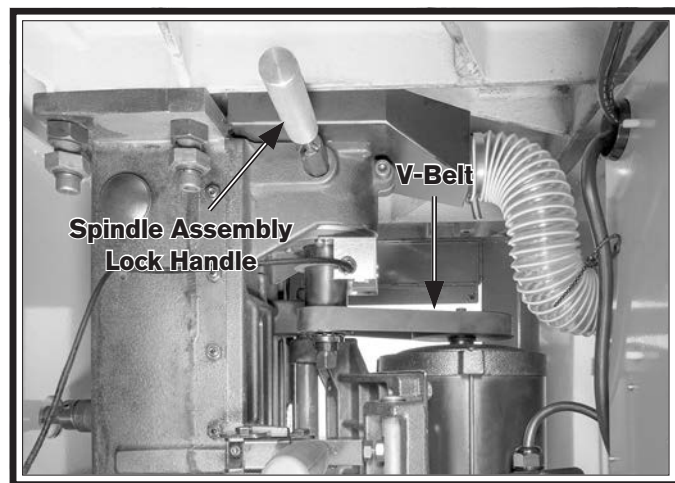

Figure 18. Location of spindle lock components.
5. Unlock spindle seat by pulling spindle assembly lock handle and turning $\frac{1}{4}$ turn (see **Figure 18**). Turn V-belt and pulleys until you hear a click.